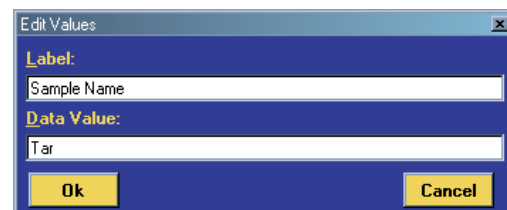

Figure 10: Edit Values Screen
11. Editing Test Data. In order to edit test data shown in the View Data File screen, click on >> Edit from the top menu bar in the View Data File screen and then follow the instructions on the screen for changing the following: Run #, labels, and the corresponding values as shown in Figure 10 below. You may also get this same menu by right-clicking on any of the labels.